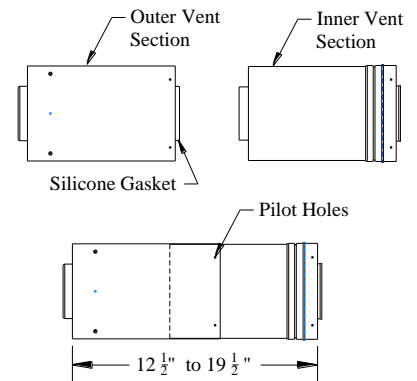

Fig 8. (Adjustable Length)
1. Before assembling, moisten the gaskets on the Outer Vent Section with the silicone lubricant provided. (See Fig 8)